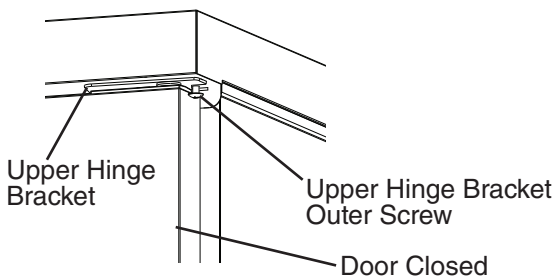
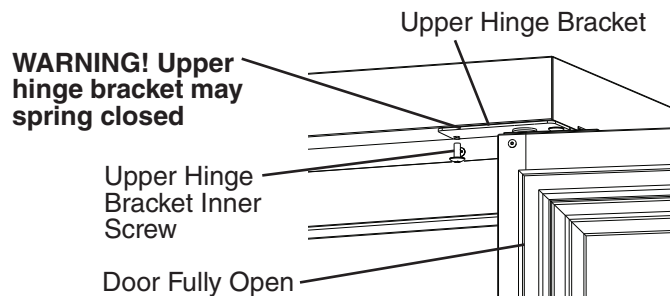

Fig. 4
Fig. 5
- 2) With the door closed, loosen, but do not remove, the upper hinge bracket outer screw. See Fig. 4. Next, open the door to the fully open position and remove the upper hinge bracket inner screw. See Fig. 5.